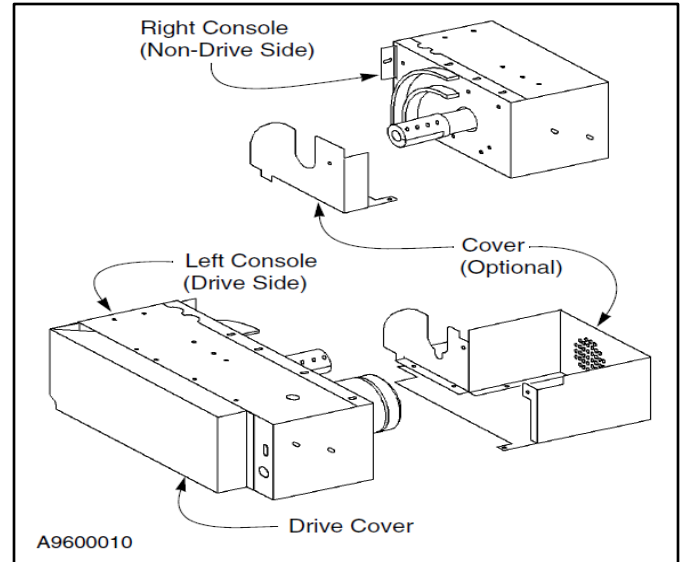

Figure 20
2. Before lifting the console assembly into position, remove all covers. Retain all fasteners. (See Figure 20.)